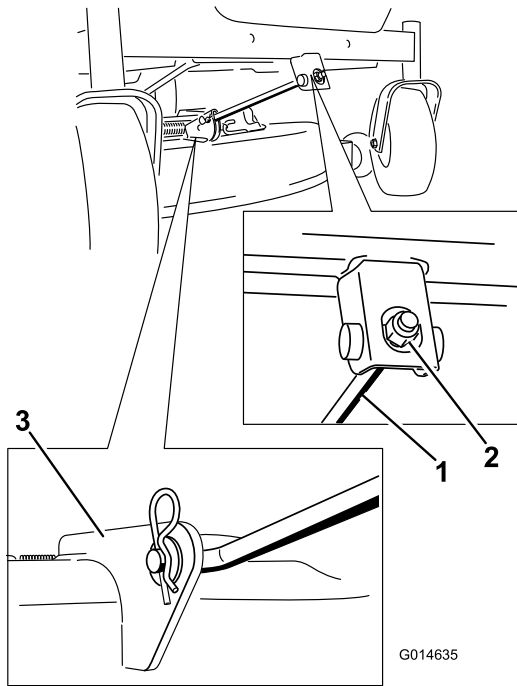

Figure 56
4. Remove the hairpin-cotter pin from the front support rod, and remove the rod from the deck bracket (Figure 56).
6. Attach the front support rod to the mower deck with the clevis pin and hairpin-cotter pin (Figure 56).